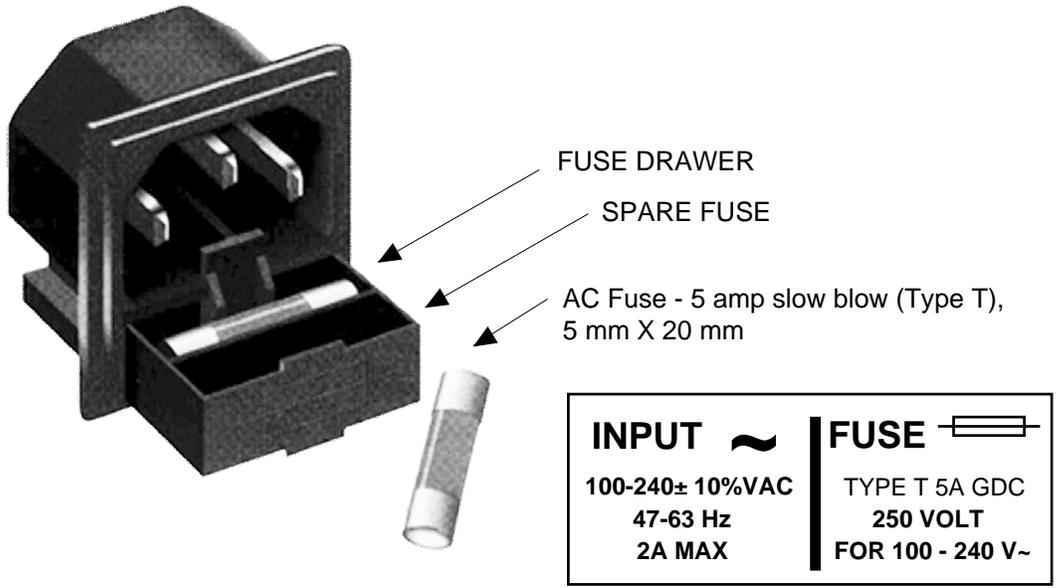

FIGURE 2.4 **Fuse Location and Spare Fuse**
8. **AC Fuse** - The fuse is a 5 mm X 20 mm, 2 amp slow blow (Type T) and is inserted in the far slot in the drawer below the AC input as shown in Figure 2.4. There is a spare fuse in the near slot. If a fuse continues to open, the power supply is most likely defective.